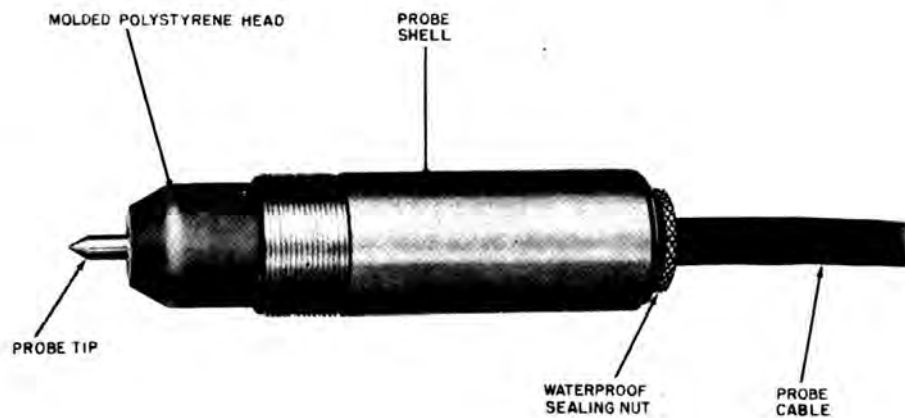

Figure 12. Portable multimeter.
c. The only serious limitation is that sometimes a 20,000 ohms-per-volt portable meter is not sensitive enough to indicate accurately the voltages in high-impedance circuits. For these special applications, a vacuum-tube voltmeter (vtvm) is required. A portable multimeter with 20,000 ohms-per-volt dc sensitivity and 1,000 ohms-per-volt ac sensitivity is shown in figure 12.